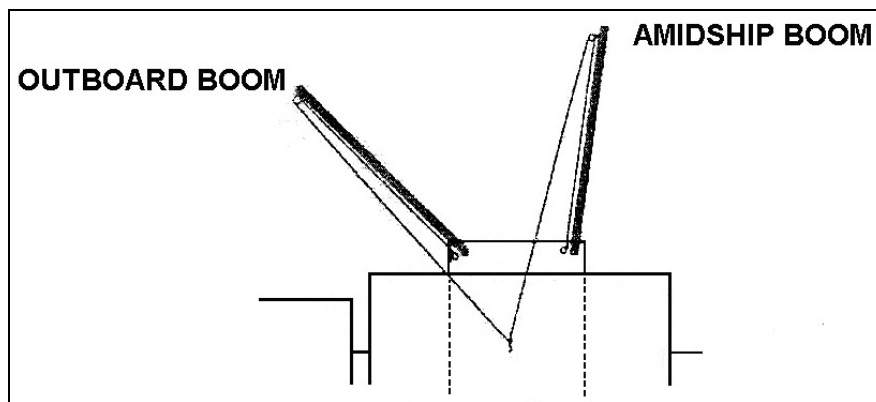

Figure 3-112. Rigging of West Coast Rig
2. Supervise the rigging of a west coast rig (see Figure 3-112).